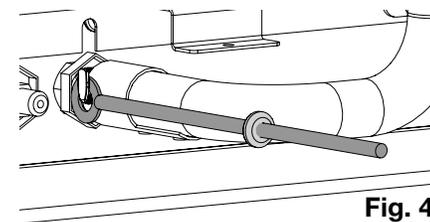

Fig. 4
- 14. Position the burner in place inside the firebox but do not secure. Lift the burner then manually engage the larger end of the rod over the left side of the air shutter (**Fig. 4**). Once fully engaged, secure the burner and media tray. **Ensure the orifice is engaged.**